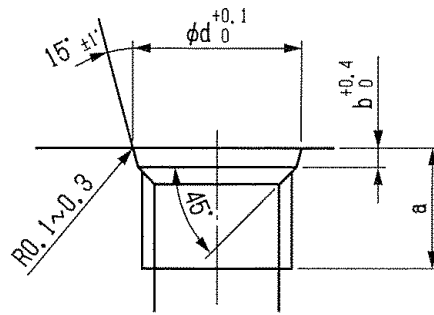

Fig. 6-2 Shape of Port with Parallel Pipe Threads (G)
- Each port of the product uses parallel pipe threads (G). See Fig. 6-2. If you use a hose connector with threads of a different standard, the product may be damaged, resulting in a personal injury accident due to malfunction of the machine or damage to the machine.